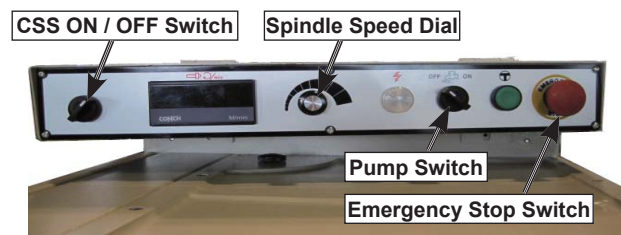

Figure 15. Control panel.
5. Turn the CSS ON / OFF switch to ON, turn the spindle speed dial (Figure 15) to its minimum speed, and make sure the cross slide is backed out to avoid possibility of a high-speed start.